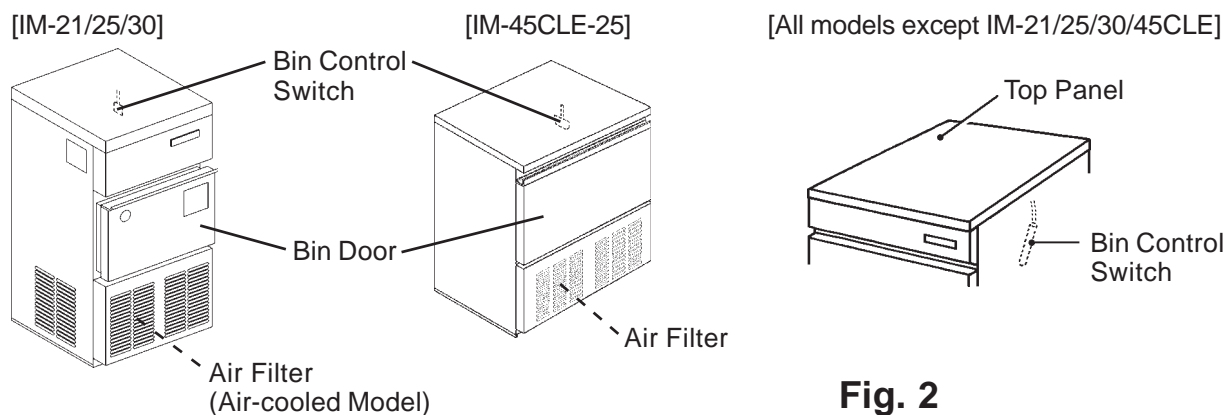

Fig. 2
5) Remove shipping tape holding the Bin Control Switch by opening the Bin Door and reaching in (see Fig. 2).